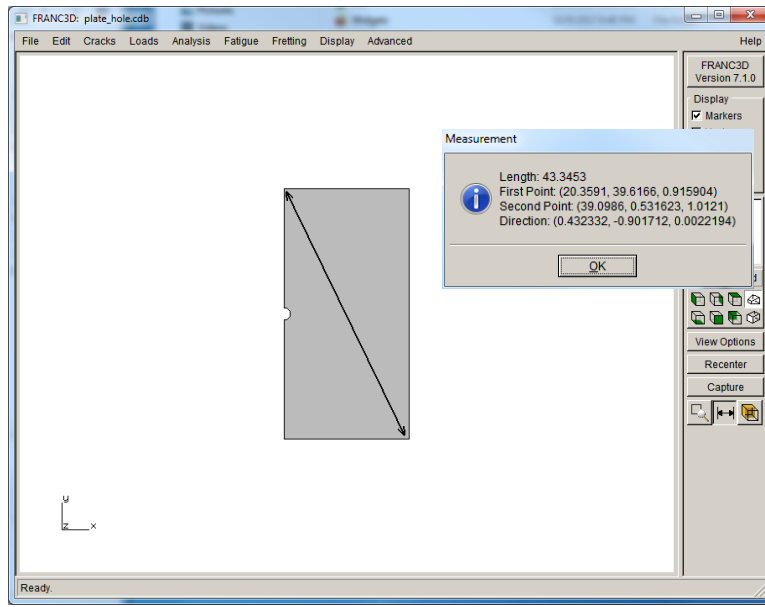

Figure 2.1.8 Surface measurement.
**Measurements:** This allows one to find the Cartesian coordinates of a point on the model surface, or to find the distance between two points on the model surface, Fig 2.1.8. Using the left mouse button, click on the model surface to view the coordinates; click and hold and then drag the mouse to obtain the distance between two points on the model surface.